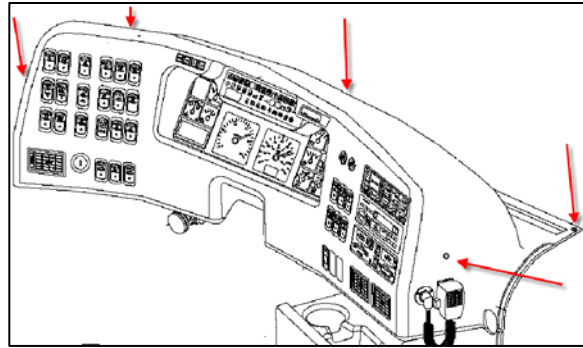

Fig.10
18. Replace dashboard cover. Use M4 -0.7 x 20 screws (5) to fix the cover to the dashboard. (Fig.10).